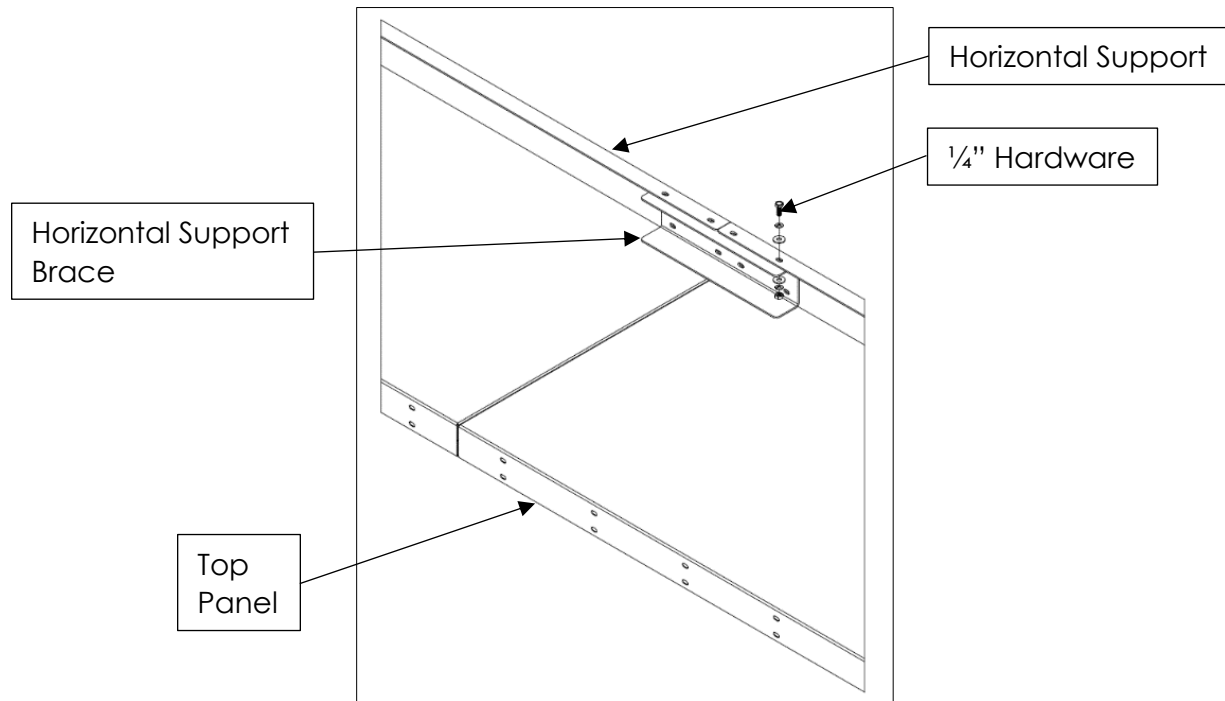

FIG. 7
3. Seat horizontal supports at the front of the top panel segment (Skip this step for 8' W booths). Bolt together the horizontal supports with the horizontal support brace (12 bolts total, see **FIG. 7**).